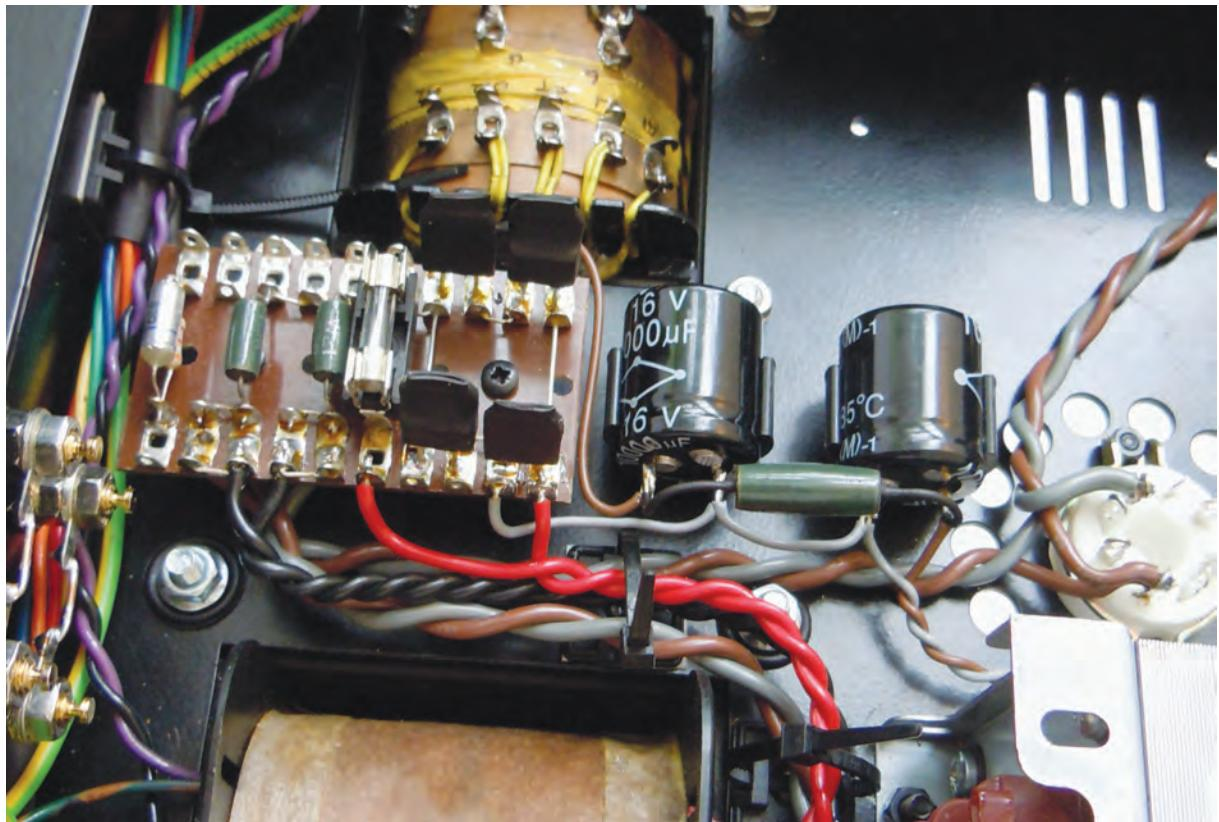

Fig. 15 Heater Power Supply Wiring
**Figs. 15 / 16** Fit the pi filter capacitors C14 and C17 to their plastic clips with the negative terminals next to each other. Using a short length of thin brown wire connect the positive terminal of C14 to the junction of D5 / D6 (9). Using a short length of thin grey wire connect the negative terminal of C14 to the junction of D7 / D8 (19). Link the negative terminals of C14 and C17 with a short length of grey wire. Insulate the ends of R30 and solder between the positive terminals of C14 and C17.